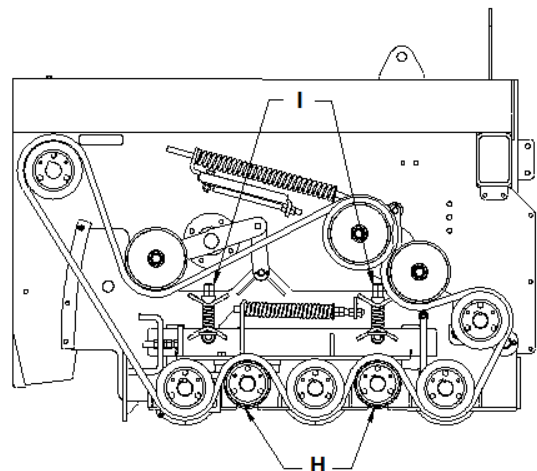

Figure 7-28: Smooth Grabroll Height Adjustment
3. To adjust smooth grabrolls (H), shown in Figure 7-28, up or down, use eye bolts (I). Amity recommends adjusting in $\frac{1}{4}$ " increments.